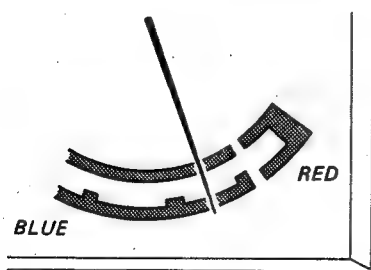

Fig. 8-2. Level meter setting
3. Adjust R539 so that the pointer of the level meter is positioned as shown in Fig. 8-2.